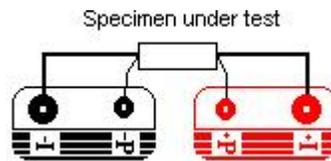

Figure 2
Open the top protection lid of the case and attach the test leads to the test set. The Two (2) connections on the front plate make **+I** & **-I** are the current leads. The Two (2) connections on the front plate make **+P** & **-P** are the Potential or Voltage leads. By connecting a test specimen to the Current leads (See figure 2) and applying the potential leads across the specimen the resistance readings will be determined.